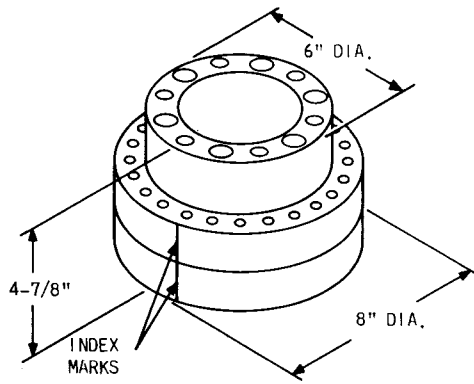

Fig. 4— Φ B Torque Indicator \Downarrow
2.05 The B torque indicator, At-8894, (Fig. 4) is used to measure and limit the torque when installing C guy anchors. The B torque indicator is not required with single speed diggers. The torque indicator is mounted to the power digger truck kelly bar between the kelly bar adapter and the C drive wrench. Shear pins are inserted circumferentially around the torque indicator. The number of pins establishes the torque setting of the indicator. Each pin is rated at 500 foot-pounds torque capacity. When the torque setting of the indicator is exceeded, the pins shear and the indicator rotates transmitting zero torque. This prevents the anchor from being driven further which may cause overtorquing and anchor damage during installation.